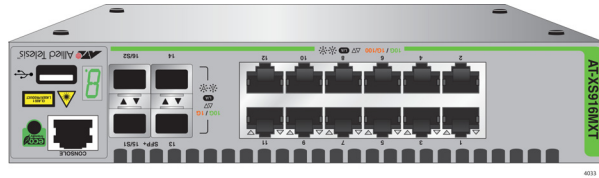

Figure 21. Turning the Switch Upside Down
2. Place the unit upside down on a level, secure surface. See Figure 21.